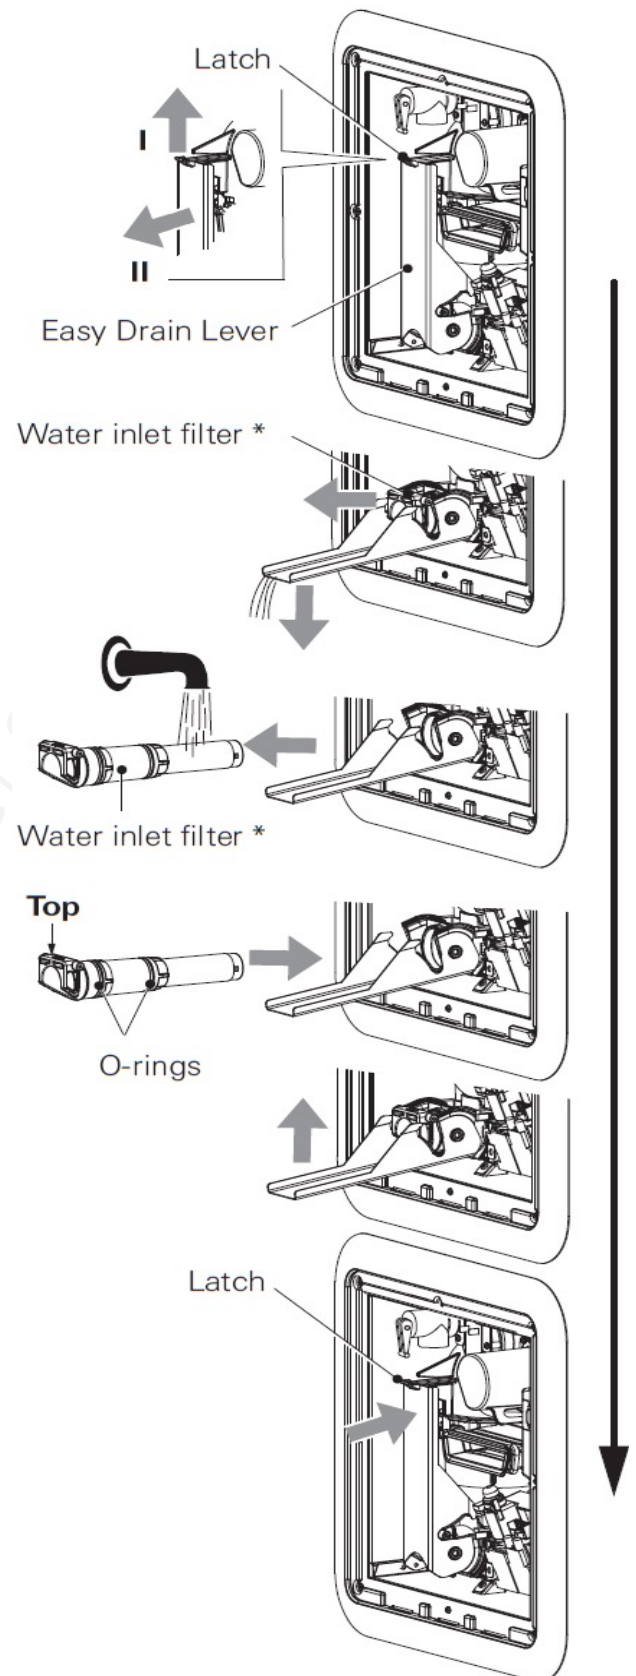

FIG. 10
8. Remove the water inlet filter (or heating cartridge) as shown in Fig. 10 and rinse it with clean water.
10. Install the water inlet filter as shown in Fig. 10. Observe the correct installation position and close the Easy Drain Lever until it is locked by the latch.